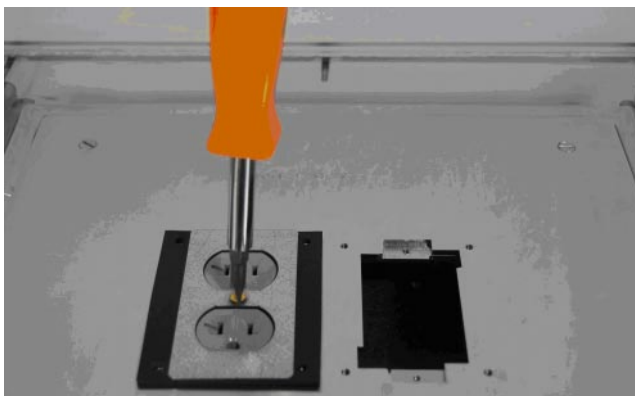

Figure 5
1. Correctly position the duplex receptacle (supplied by customer) and place it onto the cover as shown in Figure 5.